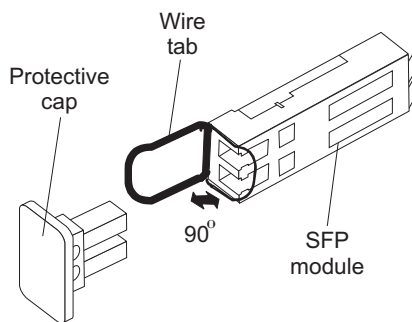

Figure 30. Unlocking the SFP module latch - wire variety
- For SFP modules that contain wire tabs, unlock the SFP module latch by pulling the wire latch outward 90°, as shown in Figure 30.